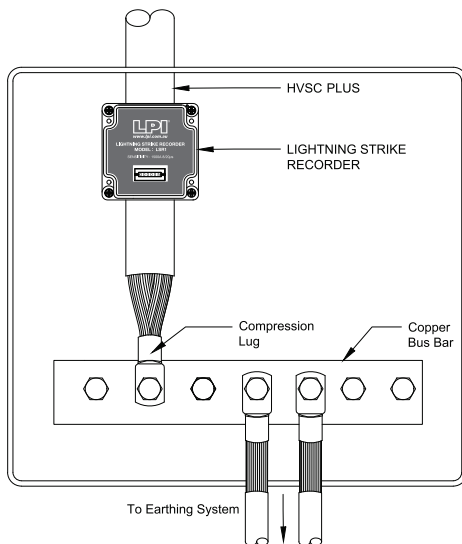

Figure 20.
- If terminating the lower end of the HVSC Plus to a bus bar, connect to the bus bar as per Figure 20.